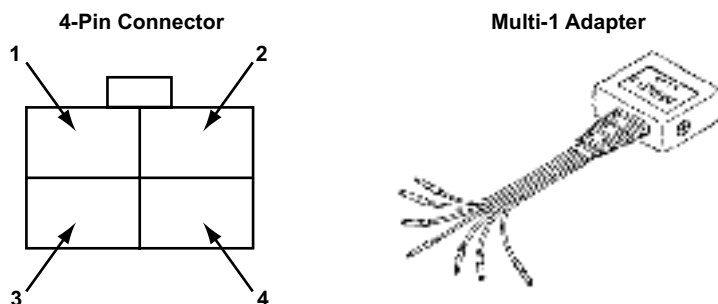

Figure 6-6 1989 transmission 4-pin connector and MULTI-1 adapter
- Connect the MULTI-1 adapter with black terminal converters to the 4-pin connector as shown in Figure 6-6. The connector is located near the brake booster and left strut tower.